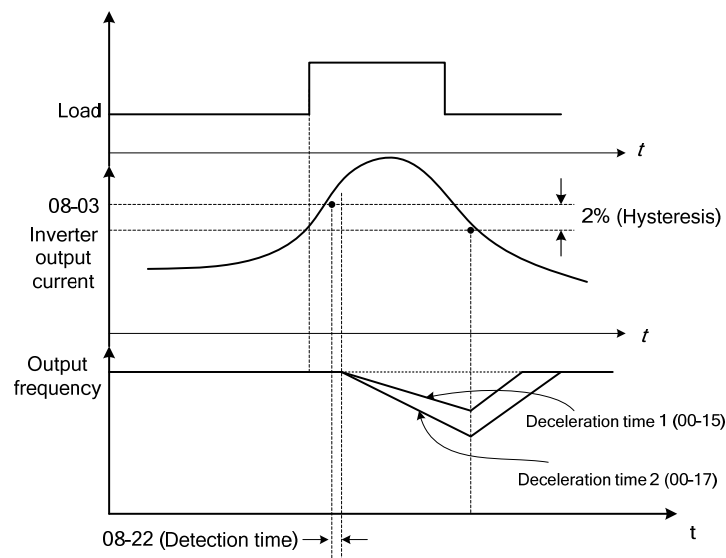

Figure 4.3.70 Stall prevention selection during operation
- (1) This function prevents the motor from stalling by automatically reducing the output frequency during run.
- (2) If the inverter output current rises above the level set in parameter 08-03 for the time specified in parameter 08-22, the inverter output frequency is automatically decreased following deceleration time 1 (00-15) or deceleration time 2 (00-17).
- (3) When the inverter output current falls below the level set in parameter (08-03) minus 2%, normal operation continues and the output frequency increases to the frequency reference using the acceleration time 1 or acceleration time 2. Refer to the following figure 4.3.70.